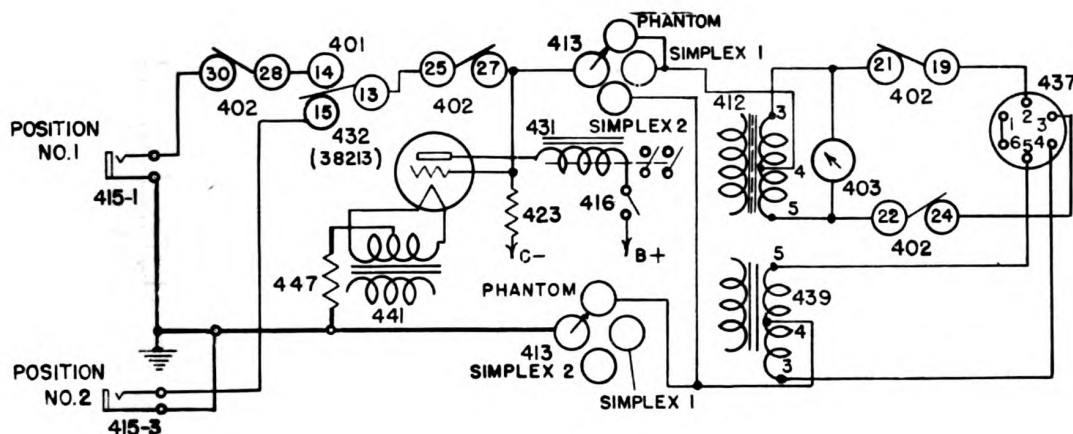

FIG. 19 CONTROL UNIT RM-7-B, ADJUSTED FOR REMOTE OPERATION, KEYING CIRCUIT
(2) Keying—Fig. 19 shows the keying circuit of the Control Unit RM-7-B adjusted for remote operation. Functionally, the control unit conducts the keying pulses from either of the keying jacks 415-1 and 415-3 to the outgoing line plug 437. Fig. 19 shows the contact positions of switches 401 and 402 which complete the keying